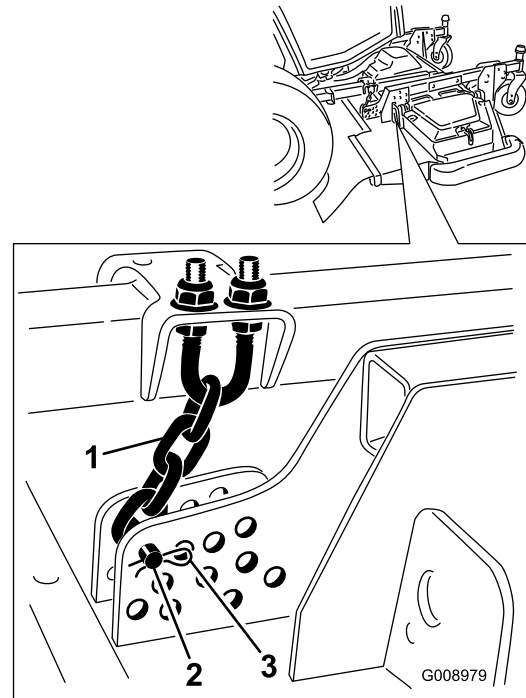

Figure 24
5. Remove the hairpin cotter and clevis pin securing the height-of-cut chains to the rear of the cutting unit (Figure 24).